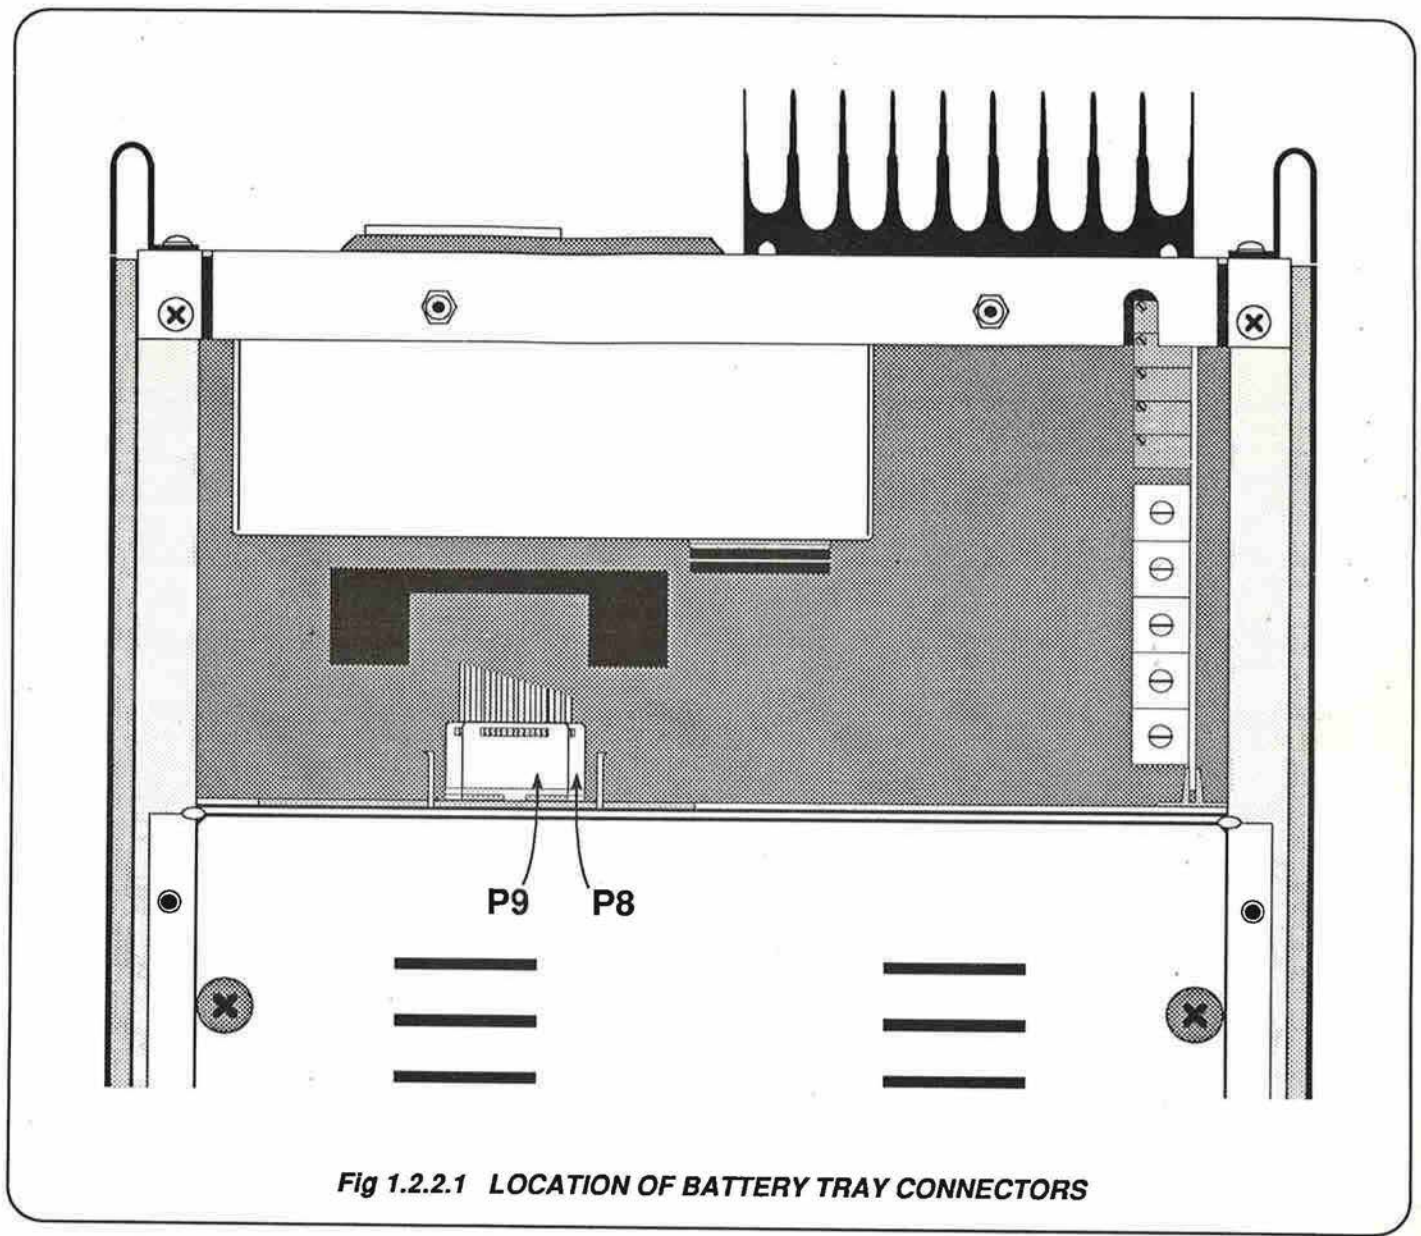

Fig 1.2.2.1 LOCATION OF BATTERY TRAY CONNECTORS
3. Remove the two ribbon-cable plugs, P8 and P9, from the rear left hand side of the battery pack — refer to *Figure 1.2.2.1*.